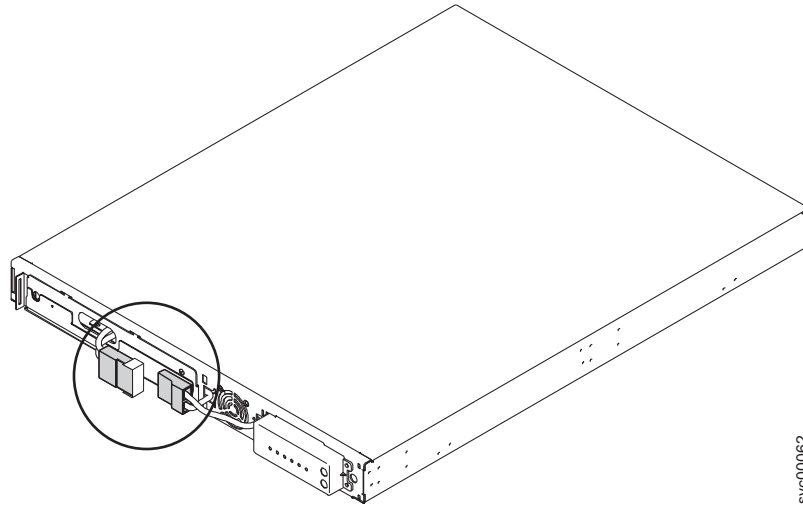

Figure 30. The 2145-1U uninterruptible power supply internal battery connector with protective tape
4. Remove the protective label from the internal battery connector (shown in Figure 30 on page 47).